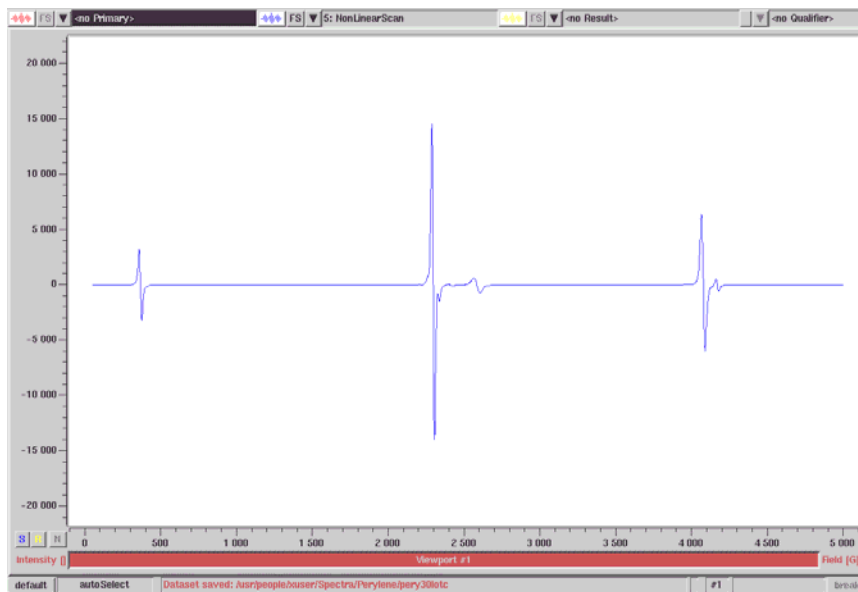

Figure 7-5 A nonlinear field sweep of the ruby crystal.
6. **Acquire the spectrum.** Click the **Run** button to start the acquisition. The nonlinear field sweep of the ruby crystal is shown in Figure 7-5.